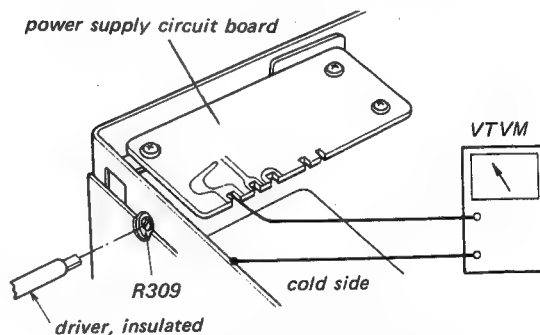

Fig. 12-4 Power voltage adjustment
R309 100 k Ω (B) See Fig. 12-4.